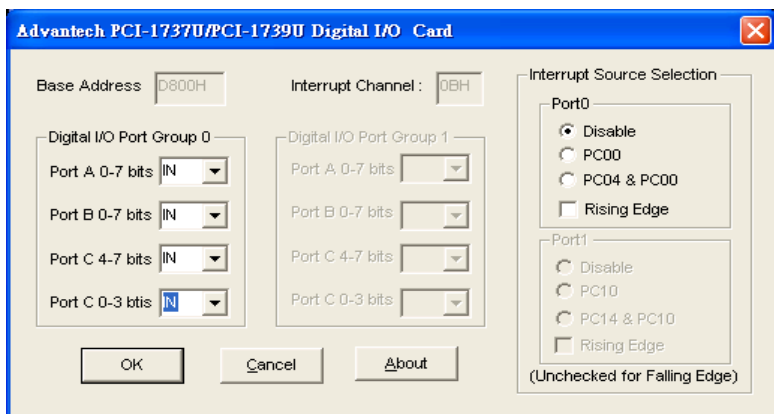

Figure 2.4: The Device Setting Dialog Box
3. On the Device Setting dialog box (Fig. 2-4), you can configure I/O port and interrupt source setting.